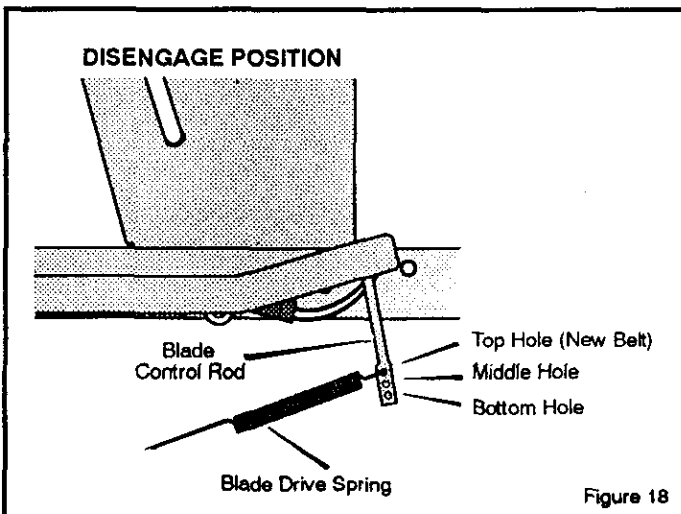

Figure 18
5. Disconnect the blade drive spring from the blade control rod. Move the blade drive spring to the middle hole (Figure 18). This will increase the tension on the mower drive belt.
12. If you replace the mower drive belt, move the blade drive spring to the top hole (Figure 18).